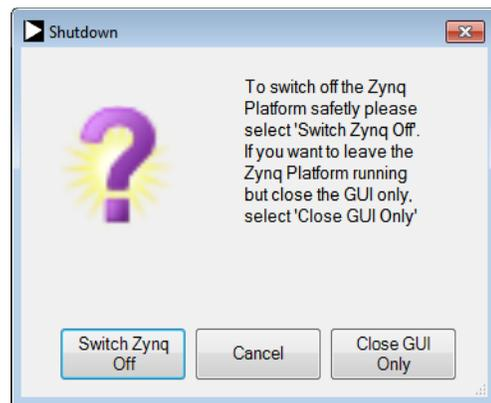

Figure 211. Shutdown Window
- **Exit** opens the **Shutdown** window (see Figure 211) where the following options are available: